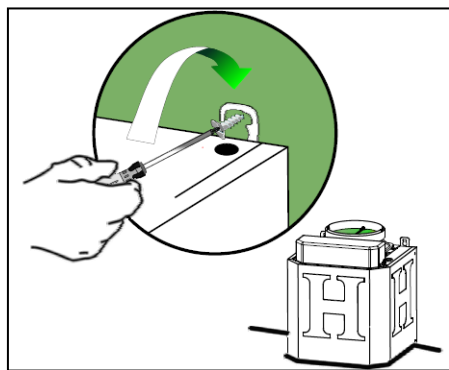

Fig. 9
- Fix the hood body to wall using 2 (two) ST5 x 50 screws provided. Tighten screws firmly. Note: Adjust the hood body alignment if necessary (Fig. 9).
Aligning the hood body (if necessary) (Fig. 9)